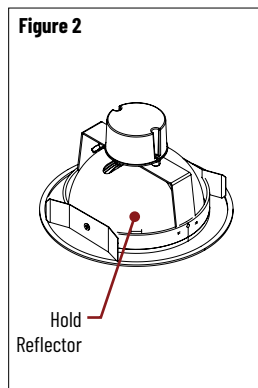

Figure 2
2. Hold luminaire's reflector to prevent it from rotating. (Figure 2)